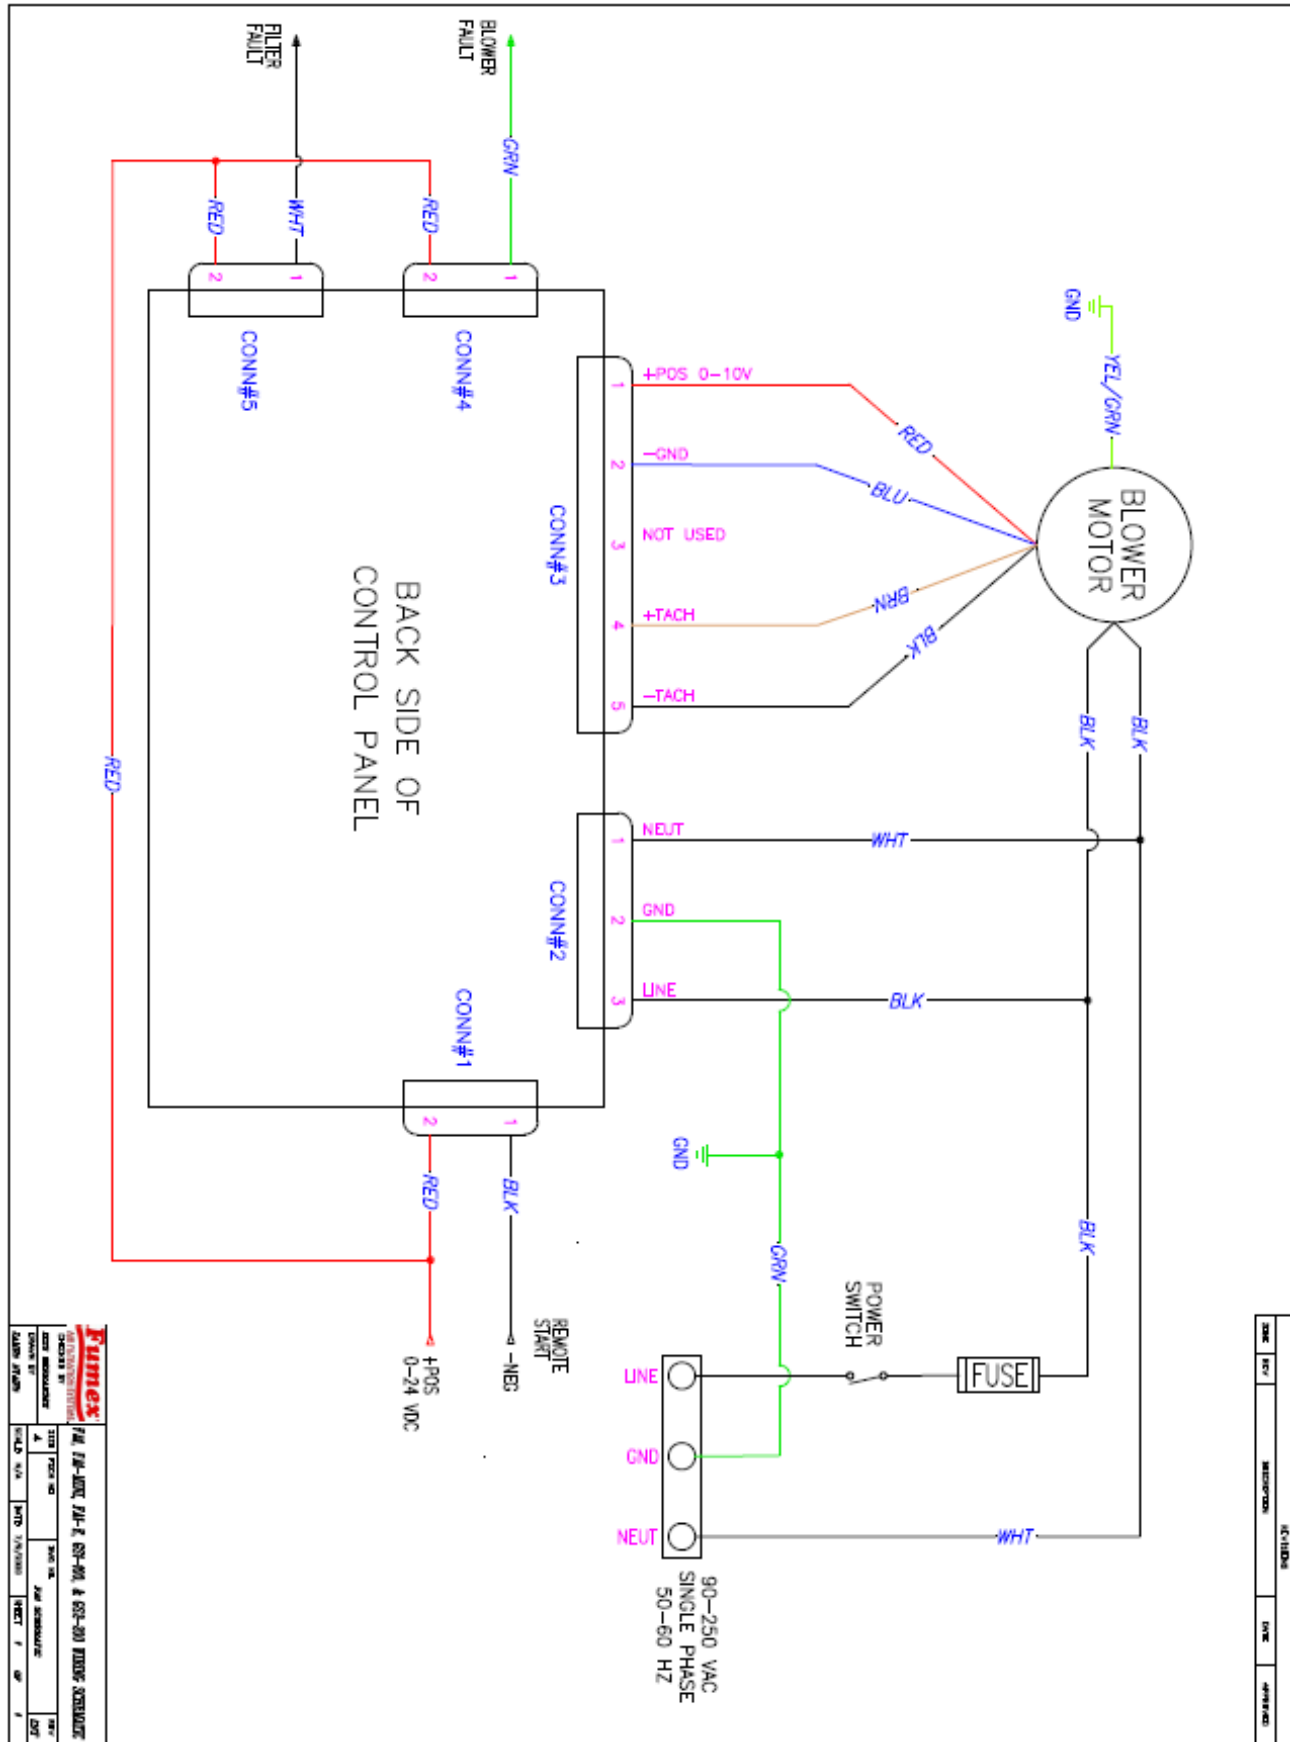

Figure 1
The GS2-200 unit can be supplied with an optional interface package providing remote start/stop and filter monitoring capabilities (Part # FA228). Please see instructions below for Relay Activation/De-Activation procedures and refer to the drawing in Figure 1 for remote connections.
3. Locate relay activation switch on the rear of the control panel as shown in Figure 1.